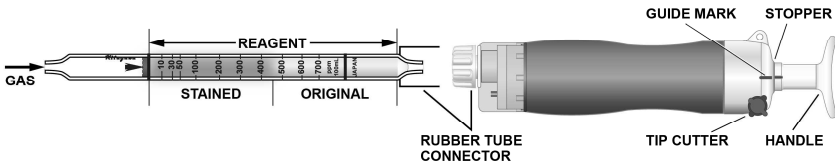

Fig.1
- ② Insert the detector tube into the aspirating pump securely as shown in Fig.1. (Arrow mark shall point to the pump.)
- ③ Align the guide marks on the shaft and stopper of the aspirating pump.
- ④ Pull the pump handle at a full stroke until it locks and wait for 1 minute or until the completion of sampling is confirmed with the flow indicator of the pump. (See descriptions about the flow indicator in the instruction manual of the pump.)
- ⑤ On completion of sampling, read the scale at the maximum point of the stained layer.
- ⑥ When the concentration is over the scale range, a 1/2 pump stroke can be used to determine concentrations of 20 to 1400 ppm.